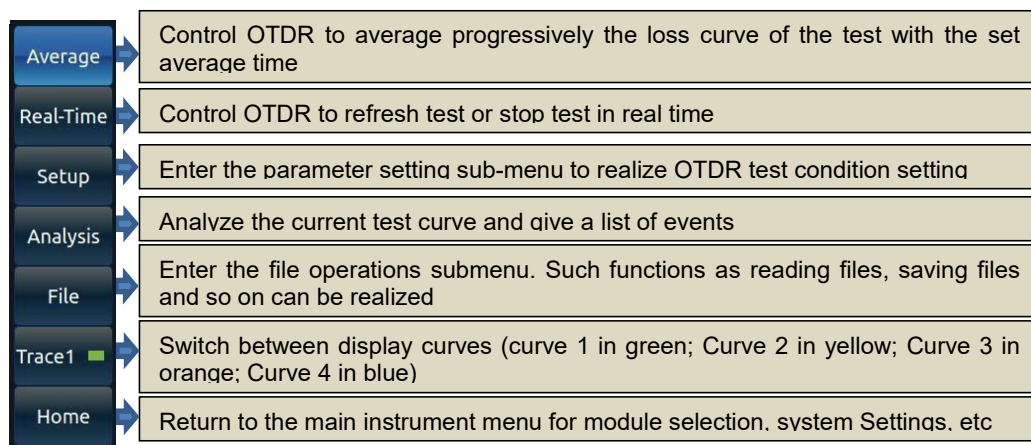
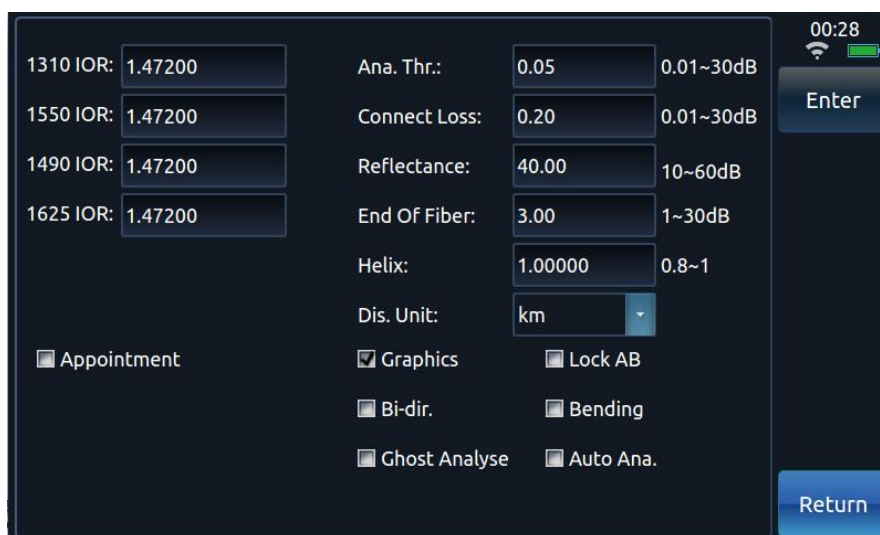

Figure 7-5 Menu buttons and main functions of main menu bar of the SS315T OTDR
Figure 7-7 Link definition setting interface
The main menu bar is displayed by default in the main operation window, which contains seven menu item buttons, as shown in Figure 7-5.
Before testing the optical fiber link, first set the OTDR test mode and various test parameters. Click the [Set] button in Figure 7-5, and then click the [test conditions] button to set the test conditions, as shown in Figure 7-6.
Click the [Set] button in Figure 7-5, and then click the [Link Definition] button to set the link definition, as shown in Figure 7-7.
- Click [Two-way Analysis] on the link definition setting interface, as shown in Figure 7-7, and click [OK].
- 1) Click [Macro Bending Analysis] on the link definition setting interface, as shown in Figure 7-7, and click [OK].
- 1) Click [Unreal Peak Analysis] on the link definition setting interface, as shown in Figure 7-7, and click [OK].